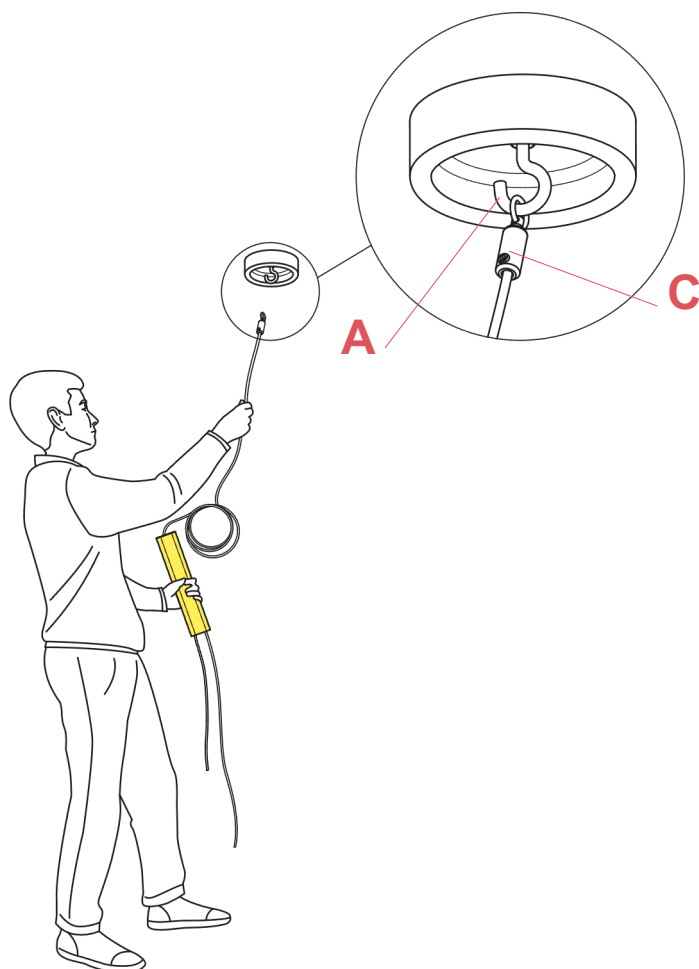

Fig.2
Hook the steel wire end (C) to the open ring (A).(Fig.2 page 29)